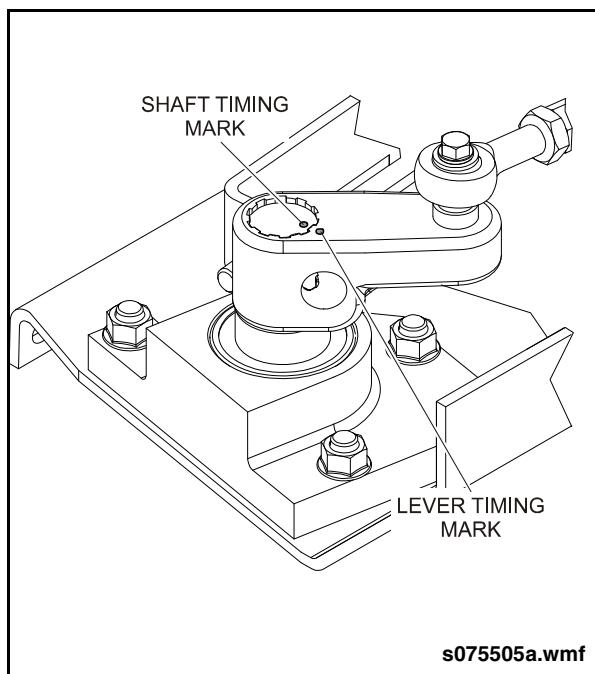

Fig. 16-16: Timing Marks
4. Reinstall door shaft levers ensuring timing marks on shaft and lever are aligned. Tighten pillow block bearing collar set screws and torque operating lever lock bolts to 47 ft-lb. (64 Nm). See "Fig. 16-16: Timing Marks" on page 25.